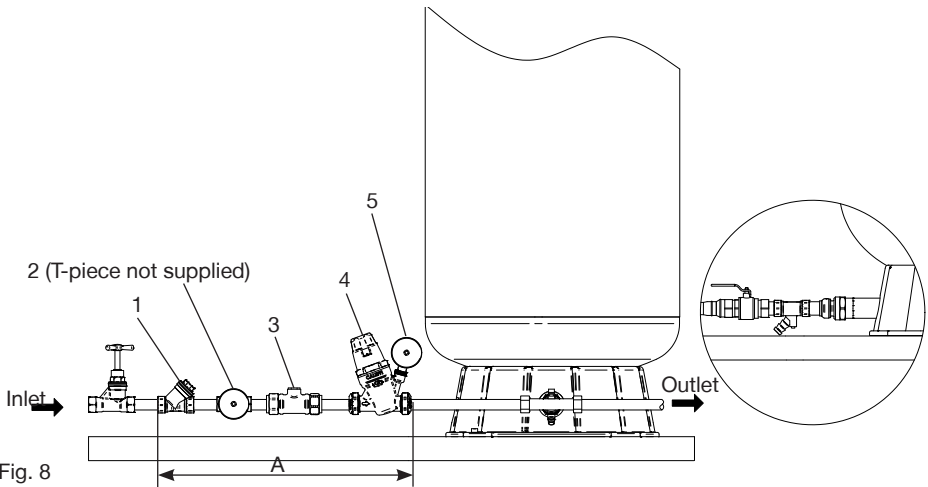

Fig. 8
- d) The vessel assembly should then be positioned and checked to ensure there is sufficient space to install the upstream line-in kit between the stopcock and pressure vessel inlet. Refer to the chart (Fig. 8) as a guide.